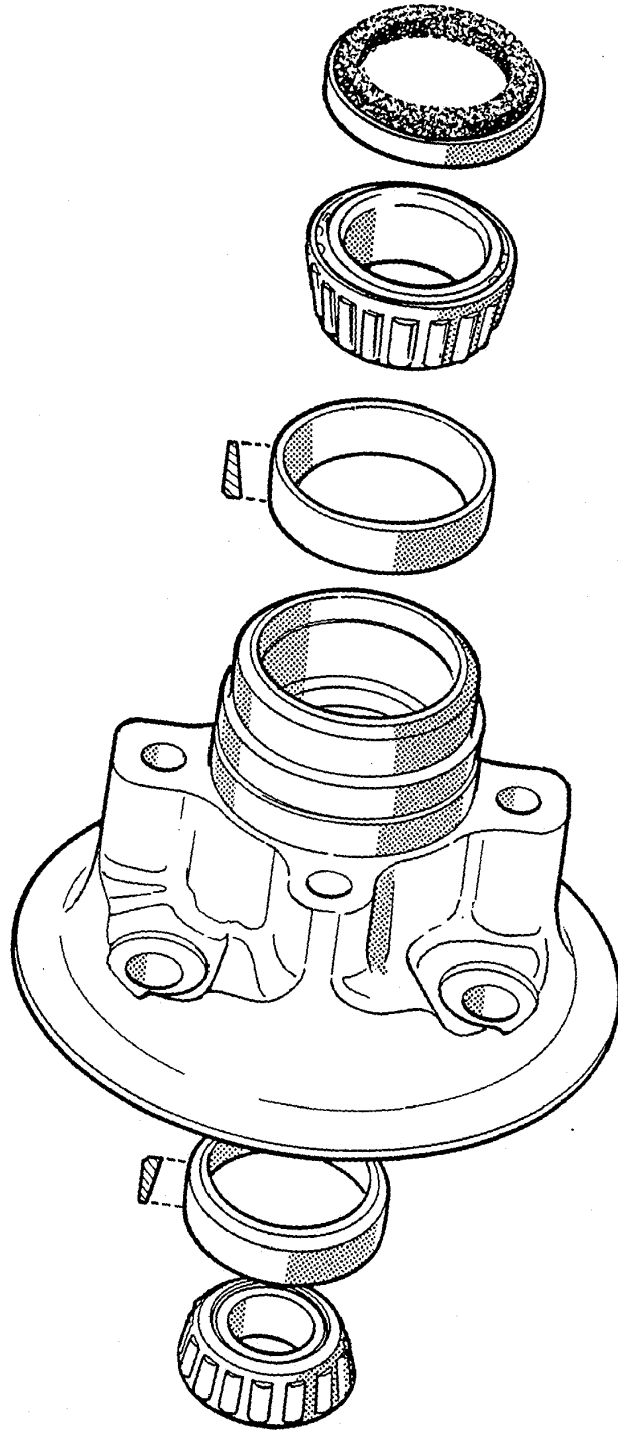

Fig. 4.5.2
5.2 Fit both the inner and outer taper roller bearing housings into the hub casting. Referring to figure 4.5.2., note that the larger bearing fits into the inner housing and both need to be pushed fully home into the hub. This can be done either using a vice or by tapping into place with a hammer and a suitable drift, taking very great care not to damage either the hub or the bearing face.